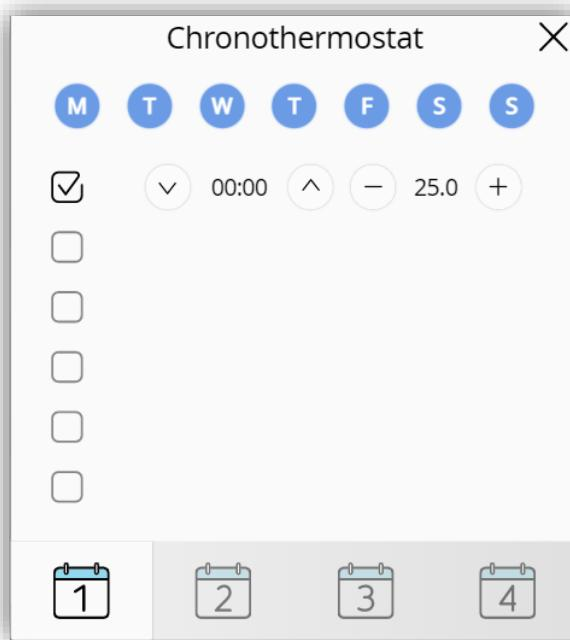

Figure 116. Chronothermostat panel
- **Minimum Setpoint Value [-99 ... 18 ... 199][°C]**: minimum setpoint value that the user can be set on the chronothermostat panel (see Figure 116).
- **Maximum Setpoint Value [-99 ... 30 ... 199]°C**: maximum setpoint value that the user can be set on the chronothermostat panel (see Figure 116).